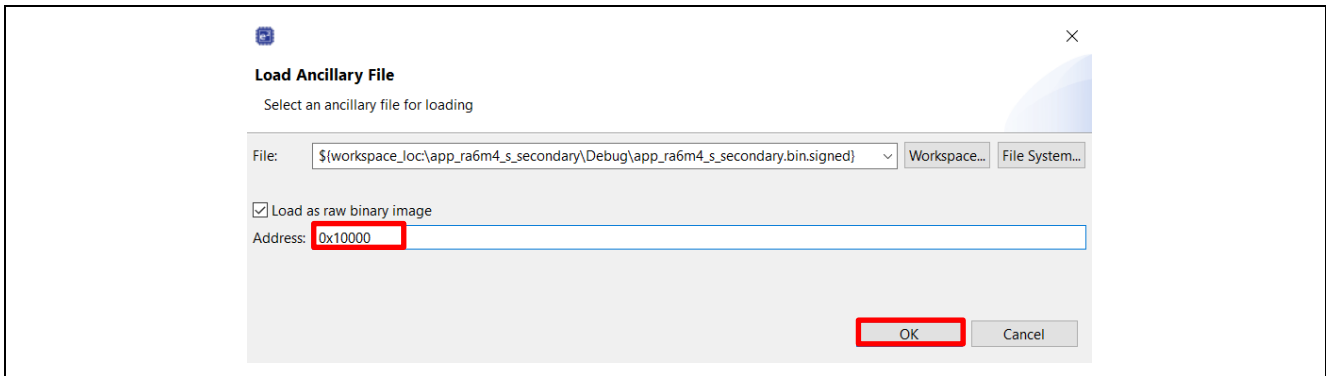

Figure 19. Load the Secondary Secure Application Image for Overwrite Update Mode
- Load the secure new application images to the Secondary slot region using the Ancillary loading capability  from the top of the e² studio toolbar in a similar way as Figure 19 except use address 0x20000.